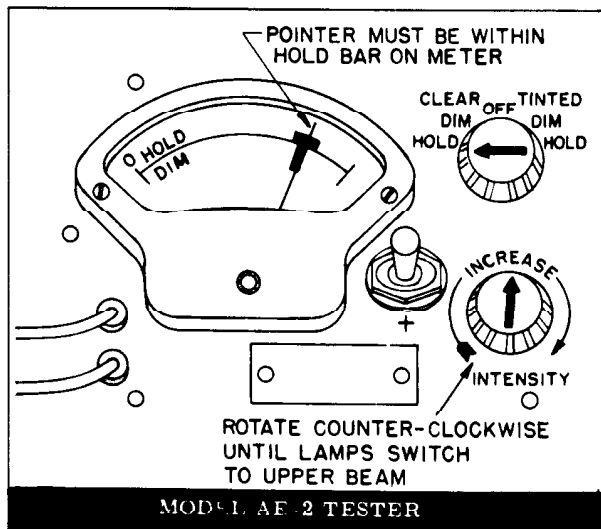

Fig. 13-101 Hold Sensitivity Test
10. Slowly turn Intensity Rheostat counterclockwise just to point where headlamps switch to upper beam. The meter pointer should now read in the Hold Sensitivity Adjustment Bar on the meter scale. (Fig. 13-101)
4. Adjust tester Intensity Rheostat until meter pointer is at center of Hold Sensitivity bar. (Fig. 13-101)